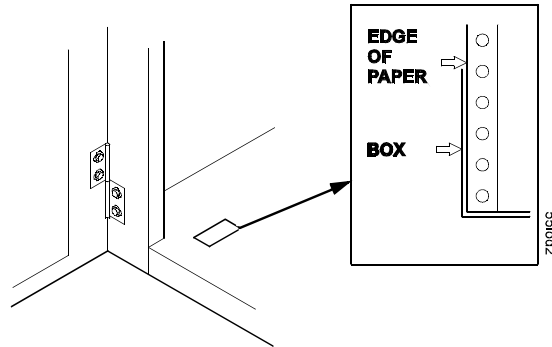

Figure 38. Paper Supply Label Location (Cabinet Models Only)
- Cabinet models: Open the front door of the printer cabinet. Place the paper supply inside the printer, on the floor of the cabinet. Align the paper supply with the front label on the floor of the printer. Ensure that the paper pulls freely from the box. See Figure 38.